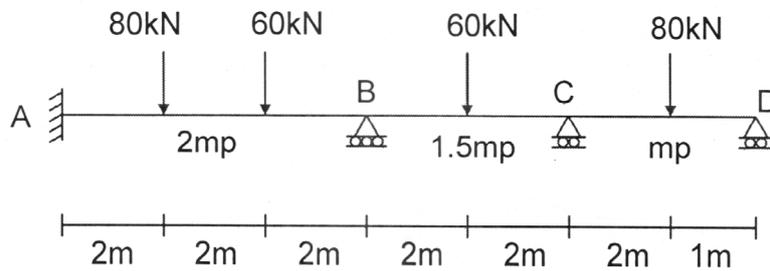

Fig. 9
b) Determine the collapse load in the continuous beam as shown in fig. 9. 14